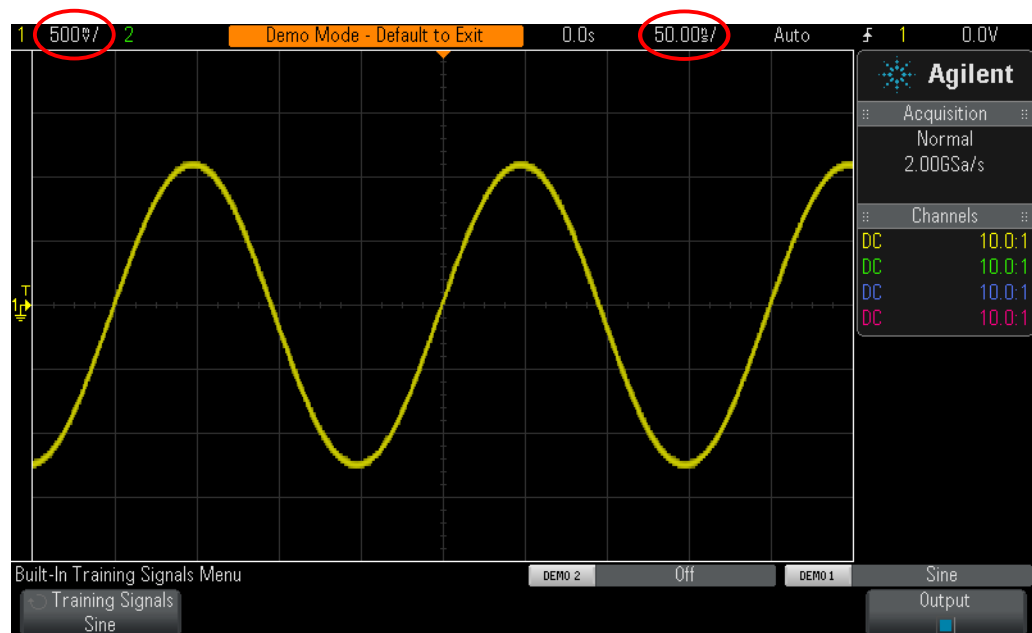

Figure 9 Initial setup to view the sine wave training signal
- 8 Turn the s/div knob (large knob in the Horizontal section) clockwise until you observe more than two periods of a sine wave across the display. The correct setting should be **50 ns/div**, which is displayed as "50.00ns/" near the middle of the top part of the display. Your scope's display should now appear similar to Figure 9. From this point forward we will simply refer to this as the scope's "timebase" setting.